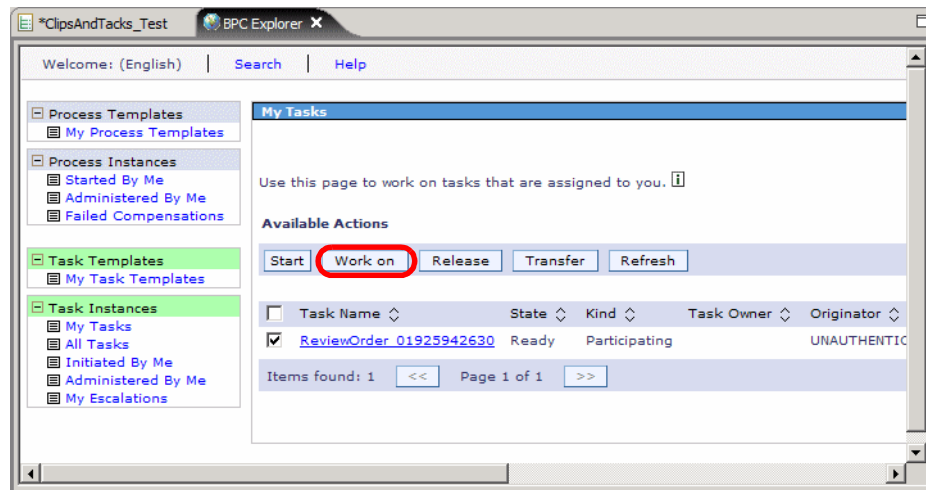

Figure 9-29 BPC Explorer: Tasks list
- ▶ The BPC Explorer opens with the My Tasks view and the ReviewOrder activity is visible (Figure 9-29).